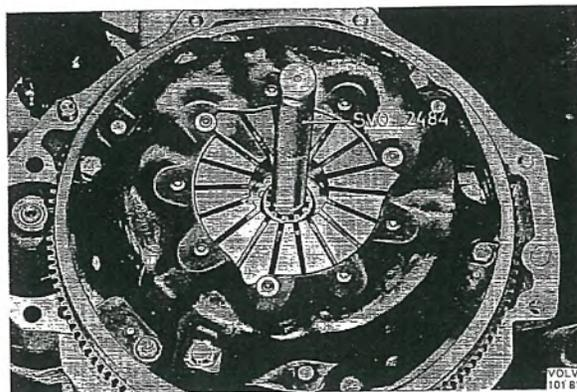

Fig. 4-8. Installing clutch
1. Set up the clutch plate (the longest side of the hub facing backwards) together with the clutch and insert the centering mandrel 2484 so that the guide journal on this centers the pilot bearing in the flywheel, see Fig. 4-8.